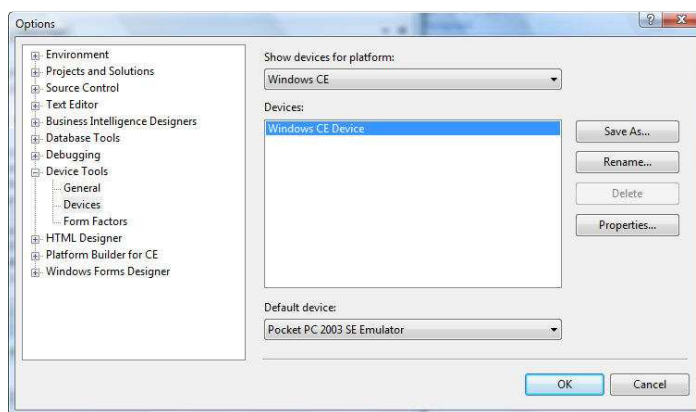

Fig. N08 - VS2008 Tools Options
- From VS2008 IDE, select **Tools | Options...** to bring up the following configuration screen, as shown in Figure N08.